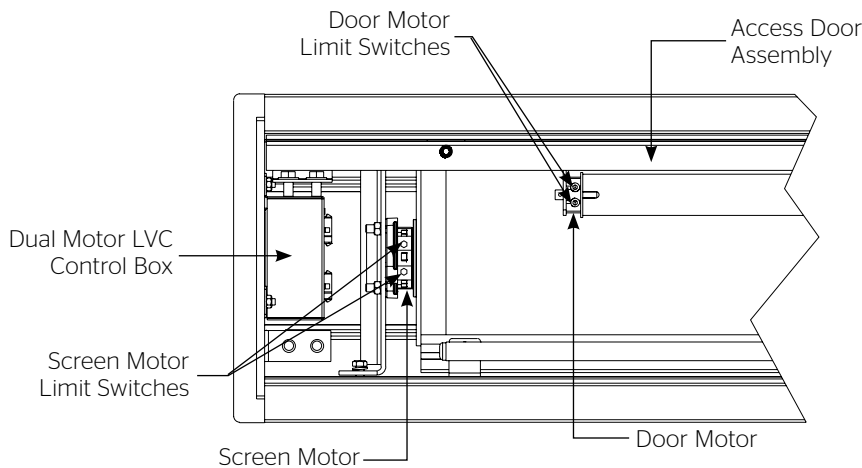

Figure 2
9. Carefully remove tape strips securing picture surface around roller. Slat should move freely (Fig. 2). (Only if the roller assembly is pre installed.)